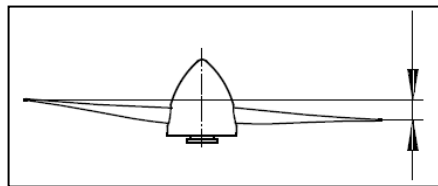

Fig. C-25 Blade track
- 2) Find the highest value and calculate difference in height of other two blades (Fig. C-25). The difference must not exceed 5mm. Record values to the form (fill "0" to the column belonging to the highest blade tip).